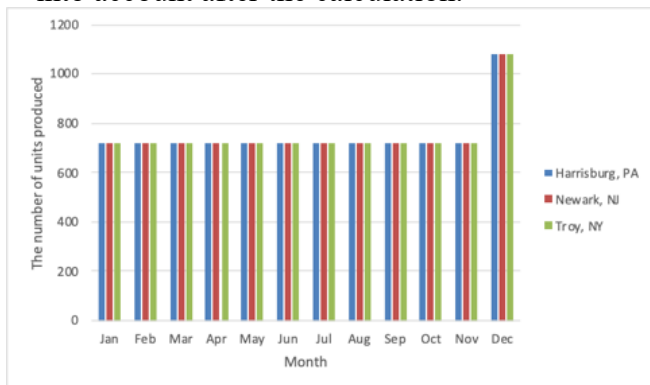

Figure 4.1
**4.1 The original model:** In Figure 4.1, we can see that the output of original model has fixed quantity for each factory. In the restriction formula of the original Model, we specifically set that all factories need to comply with the "even wear and tear" rule, so that the algorithm will take this setting into account after the calculation.